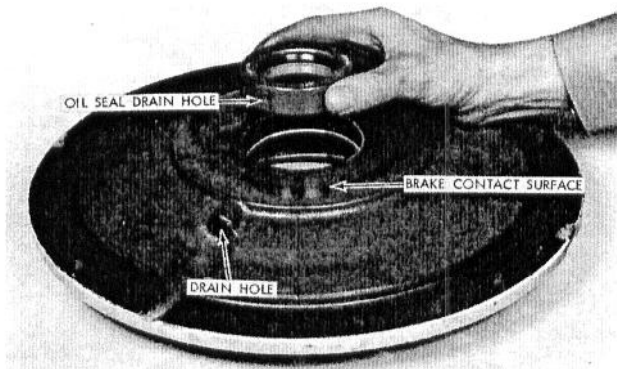

Fig. 15 - Inner Axle Shaft Oil Seal Installation
3. Examine the oil seal drain hole in the carrier plate and be certain that it is clear. See Fig. 15. If evidence of excessive oil leakage exists, replace the oil seal.
1. Install the inner axle oil seal. See Fig. 15.